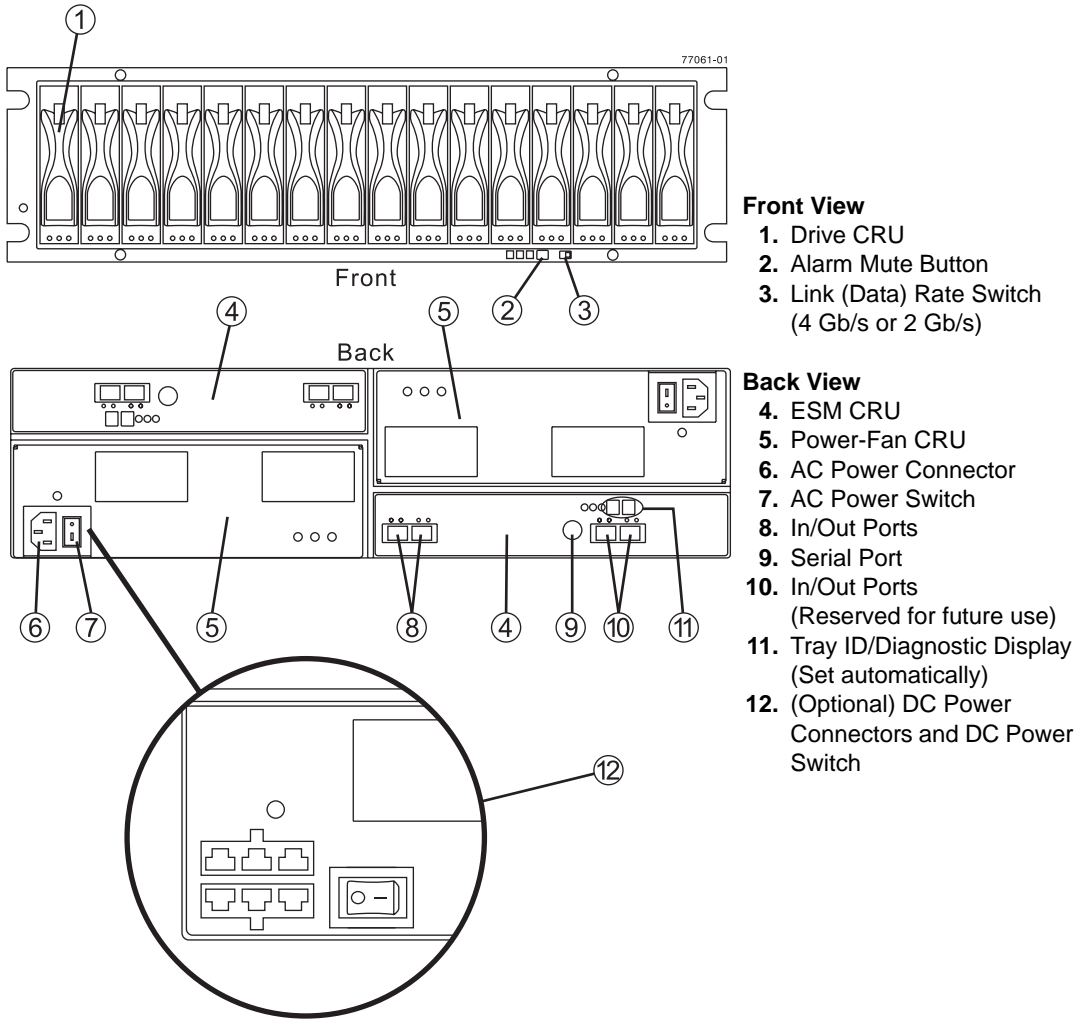
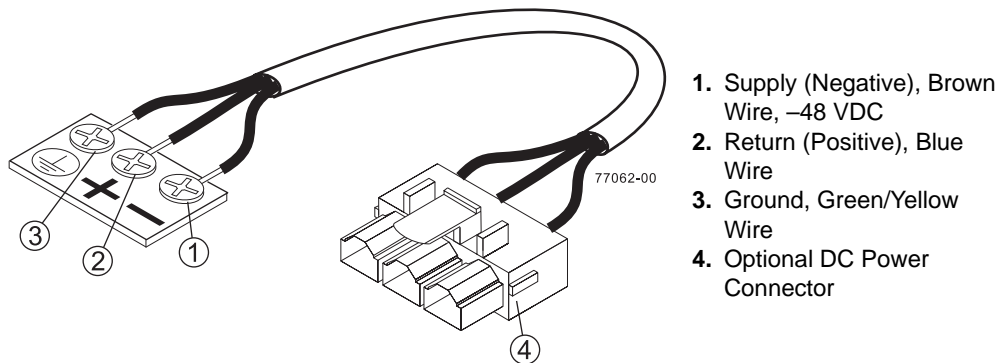

Figure 2 Front View and Back View of the CSM200 Drive Module
Figure 3 Optional DC Power Connector Cable and Source Wires
- The drive module is in the correct (top) orientation when the lights of the drives are at the bottom (Figure 2 on page 6).
- You can order an optional DC power supply connection and connector cables for the drive module (Figure 2 on page 6). **A qualified service person is required to make the DC power connection.** A two-pole 20-amp circuit breaker is required between the DC power source and the drive module for over-current and short-circuit protection. (Figure 3 on page 7). Before turning off any power switches on a DC-powered module, you must disconnect the two-pole 20-amp circuit breaker.
**NOTE** The back of the drive module contains two ESMs. The front of the drive module contains the drives. The drive module is in the correct (top) orientation when the lights of the drives are at the bottom (see Figure 2 on page 6).
- 6 If you have not done so already, use Figure 2 on page 6 to review the front and the back of the drive module.
**9 A qualified service person is required to make the DC power connection.** A two-pole 20-amp circuit breaker is required between the DC power source and DC-powered modules for over-current and short-circuit protection. Connect the DC power source wires on the other end of the DC power connector cable to the centralized DC power plant equipment as follows (see Figure 3 on page 7).